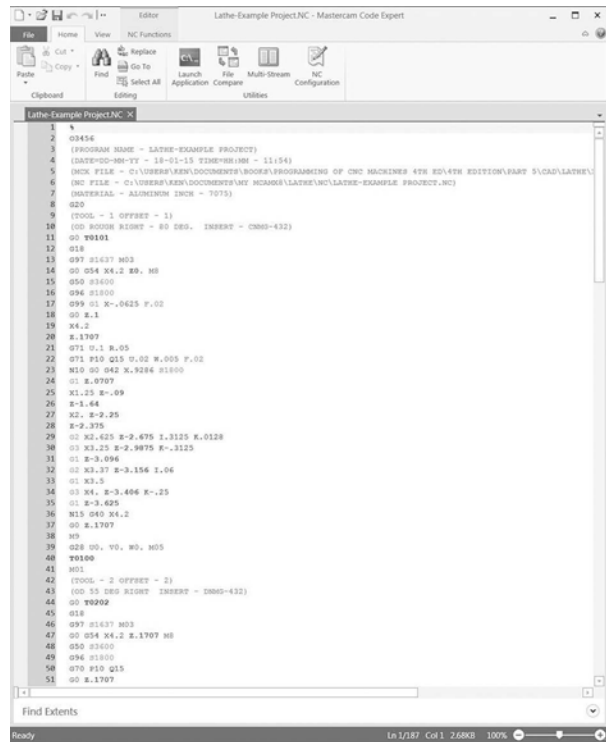

Figure 5-80 Lathe Example
7. Select all Operations; press the Post selected operations icon (G1). Figure 5-80 displays the posted paths for the Lathe Example.